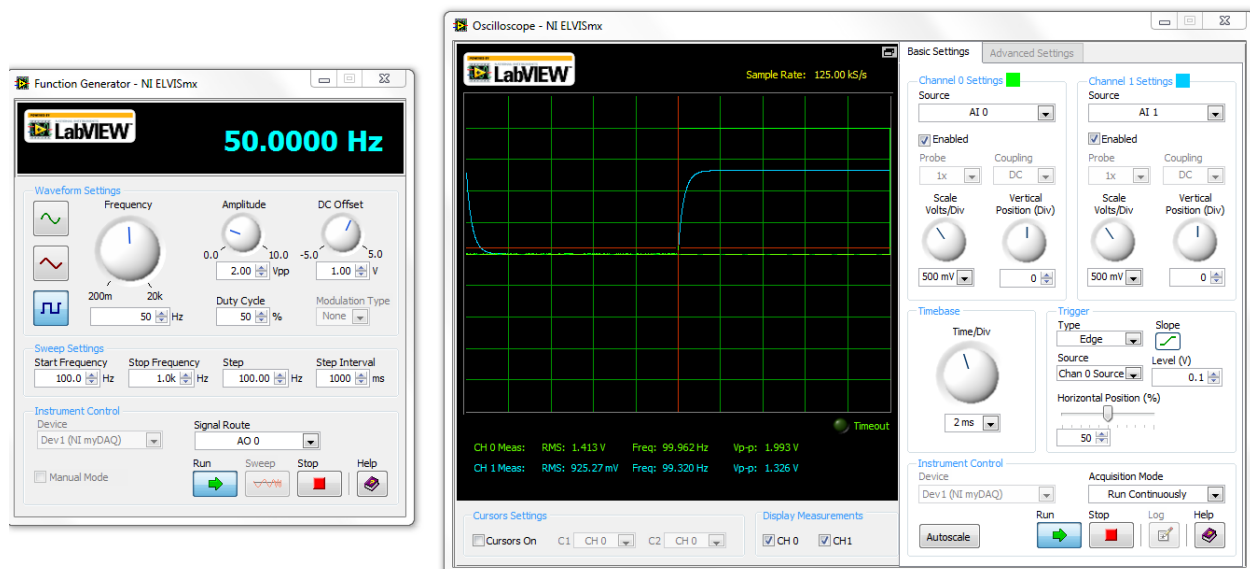

Figure 14: Closed loop response of a first order system
- Measure the input and output of the system and you should get a response similar to Figure 14. Note that amplitude is about half of the amplitude for the open loop system and the settling time is about half as long.